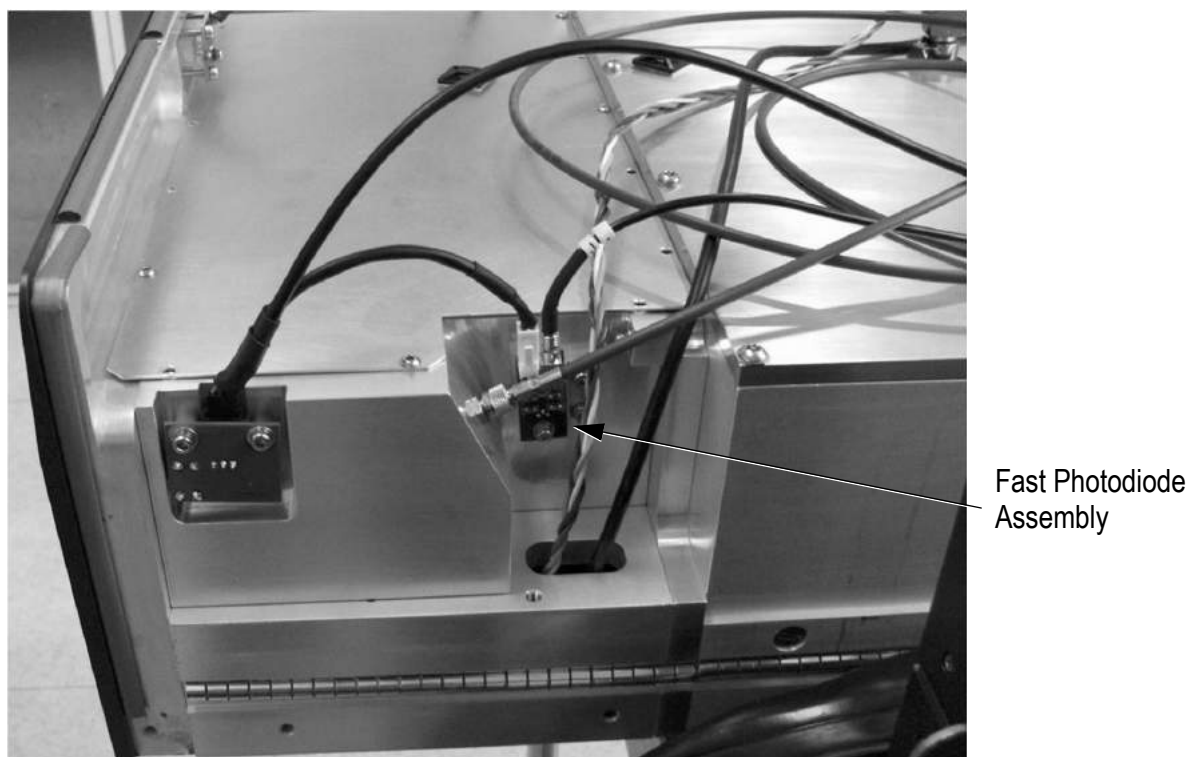

Figure 5.15-1. Fast Photodiode Assembly
4. Refer to Figure 5.15-1 below. Remove the 2 cables from the circuit board.